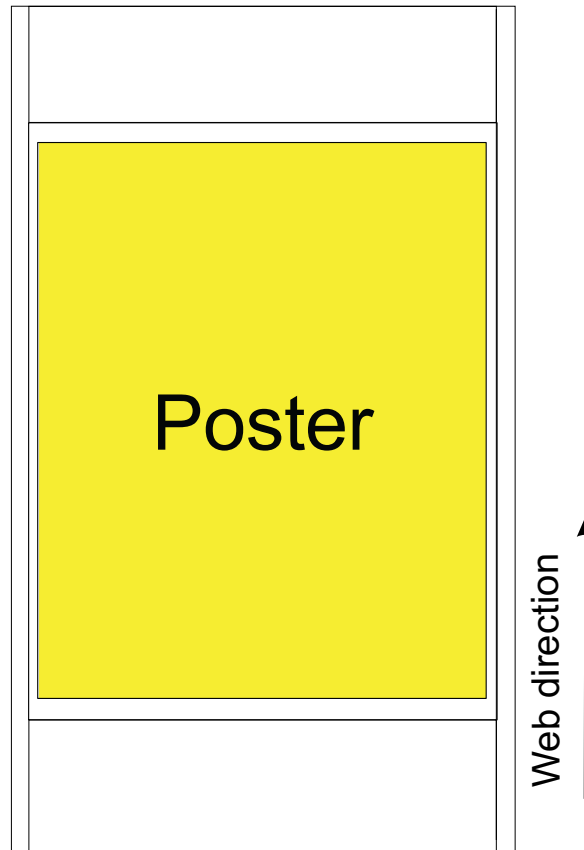

Figure 30. Poster-sized document printed 1–up, portrait orientation
**Note:** This layout looks the same as the layout for *side-by-side copies 2-up with finished page size letter*. Refer to Figure 30 on page 39 for an illustration of the layout.